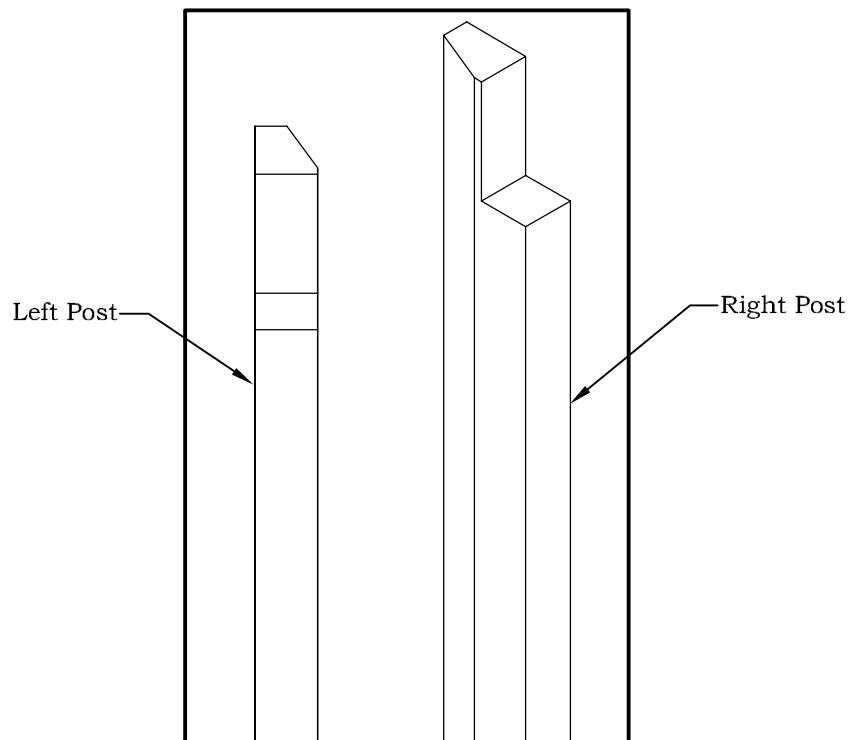

FIGURE S10
1. The left posts are beveled on the different sides. See Figure S10. Make pairs of posts, flat sides together, beveled sides out. Select the two most attractive posts for either side of the entrance. The bottom of each Post is rectangular shape, the top is notched.